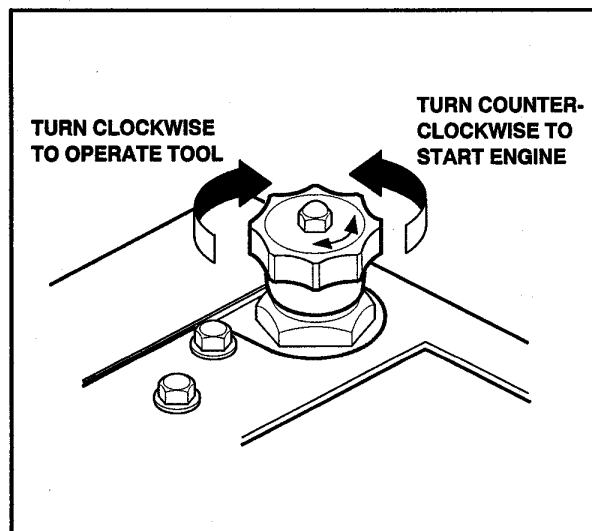

Figure 2. Hydraulic Control Valve
- Turn the control valve fully counterclockwise (OFF). (See Figure 2.)
- b. Turn the control valve knob fully counterclockwise. (See Figure 2.)